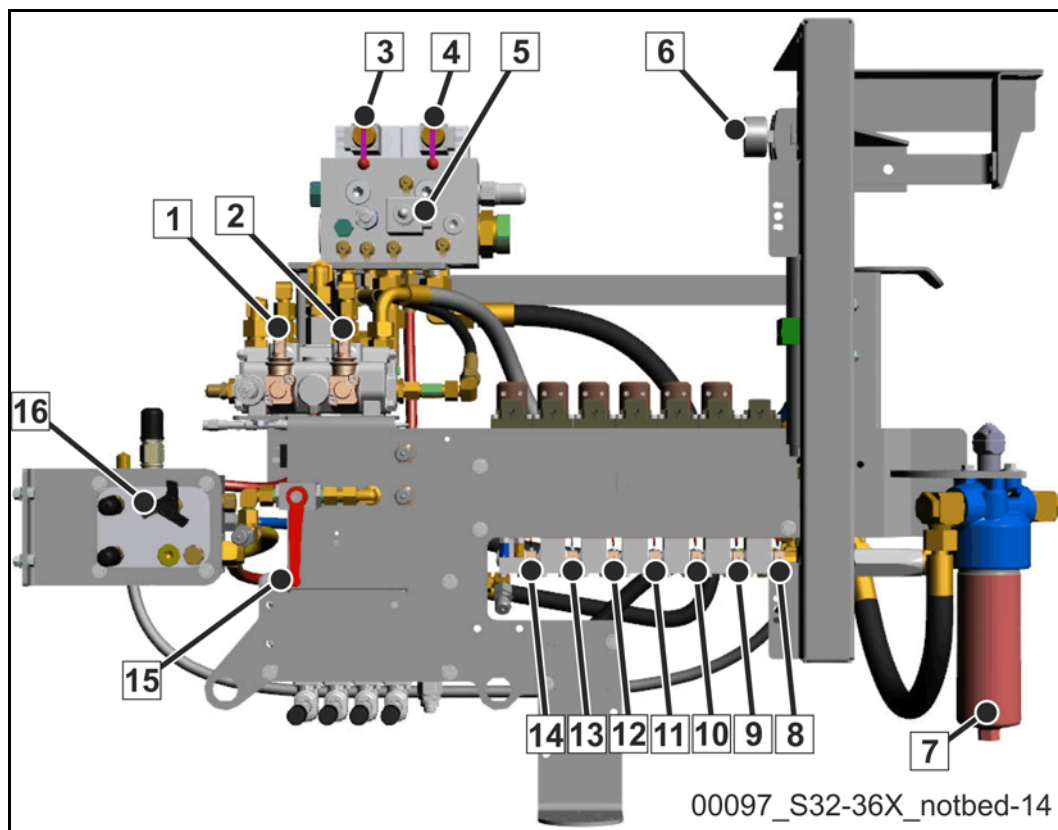
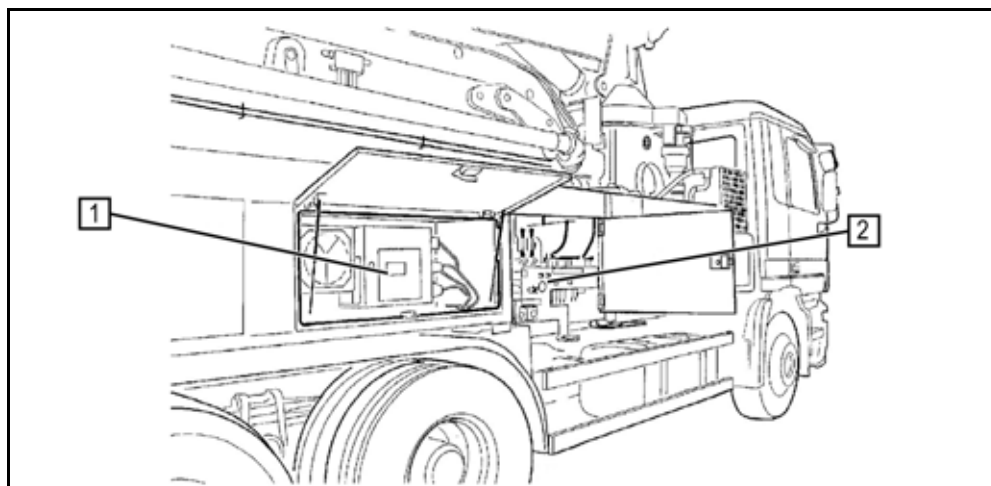
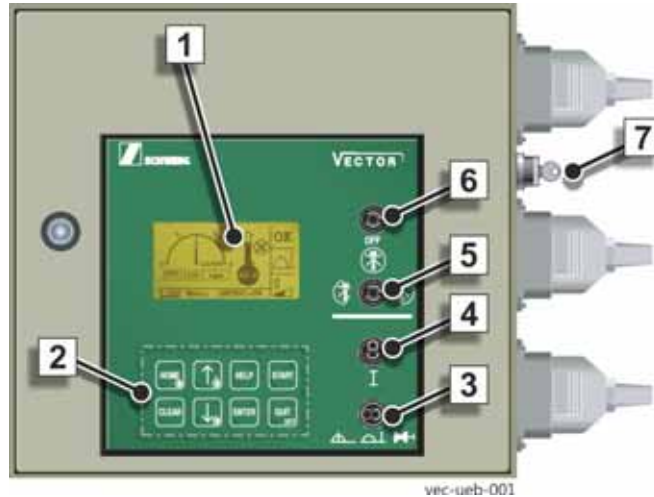

Fig. 26 Control station
Fig. 27 Control
Fig. 28 VECTOR switch cabinet
The terminal box of the VECTOR control (Fig. 28) and the control station for the hydraulic emergency operation (Fig. 26) are located in lockable housings on the right side of the machine (Fig. 27).
Caption (Fig. 26 Control station)
The hydraulic emergency control (1) and the terminal box of the electrical control (2) are located on the right side of the machine (**Fig. 27**) in lockable housings.
Caption (Fig. 27 Control)
Caption (Fig. 28 VECTOR switch cabinet)